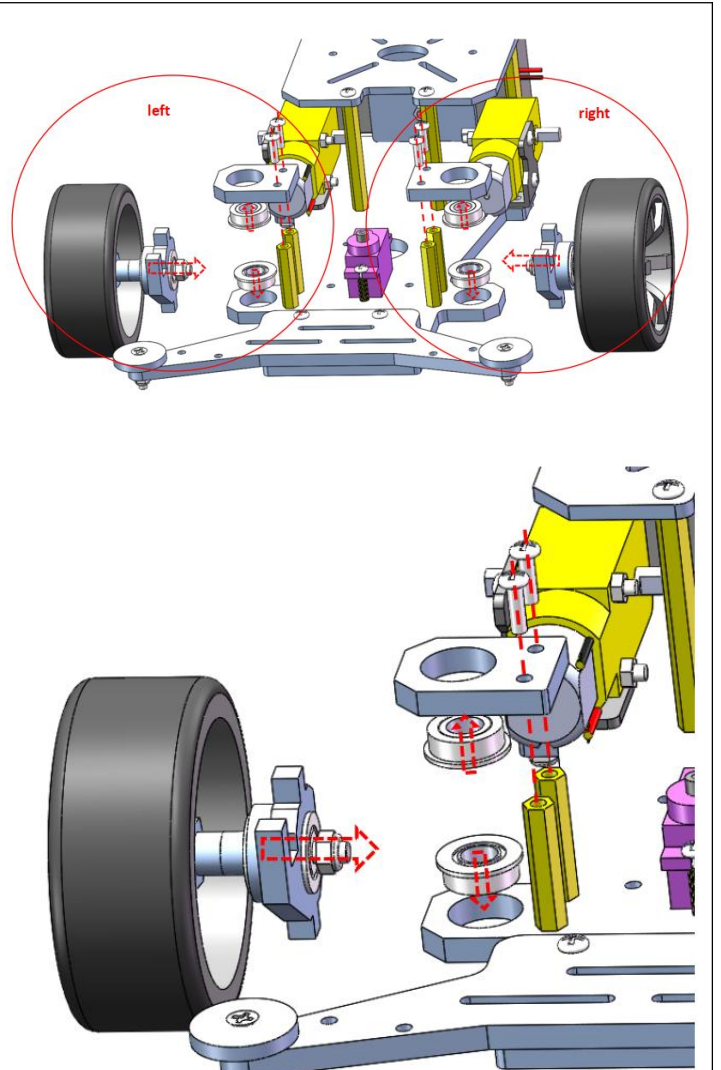

Figure 3
4. Installation of the left front wheel to the acrylic chassis frame (Figure 3):
2. Use 4 pcs M2.5*8mm round head screws to fix 4 pcs M2.5*20mm double through copper columns on the acrylic support plate (pay special attention to the installation direction of the double through copper columns on the acrylic support plate, refer to Figure 3 and Figure 4)	 Figure 3